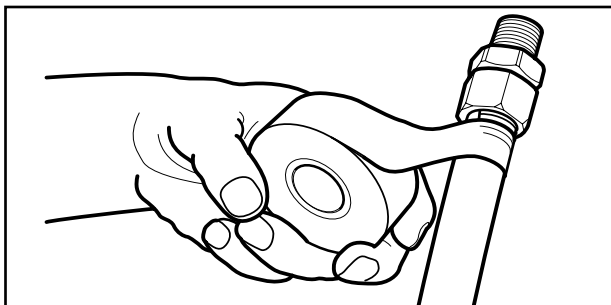

Figure 4-3A Wrapping with self bonding silicone tape - begin on jacket.
1. When installed outdoors, the plastic jacketing shall remain intact as much as practical for the given installation. Any portions of exposed stainless steel shall be wrapped with self bonding silicone tape sealing the fitting connection to prevent later corrosive attack by acid wash or chloride based compounds. (See Figures 4-3A & 4-3B)
- When **TracPipe** is installed in a swimming pool mechanical room or exposed to a corrosive environment which may be harmful to the tubing, all exposed portions of the stainless steel tubing shall be wrapped with self-bonding tape. (See Figures 4-3A & 4-3B)